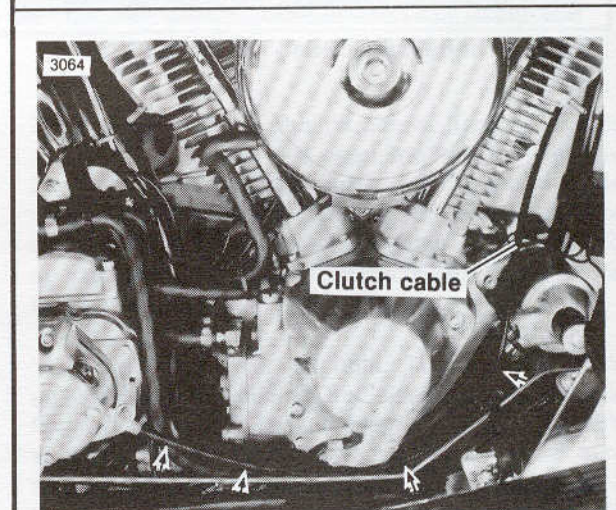

Figure 2-82. Clutch Cable Routing - FLSTC/F
1. See Figure 2-82. Install the clutch cable and anchor pin in the clutch hand lever. The flat in the pin must face in towards the hand lever.
4. See Figures 2-82, 2-83. Route clutch cable: